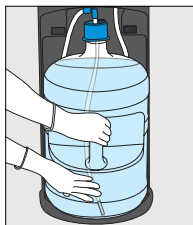
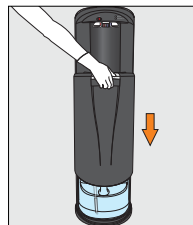

Figure 43
Figure 44
21. Slide bottle into cabinet and close the door (Figure 43 to Figure 44) (slide door downwards to close)